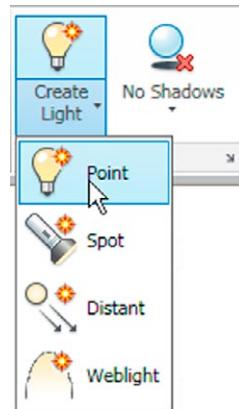
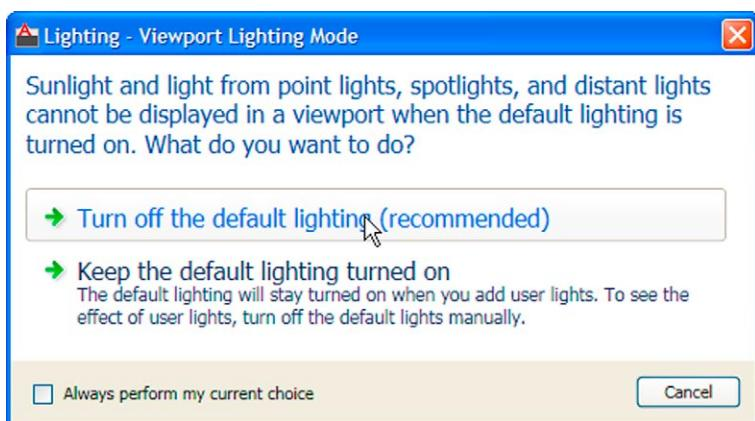
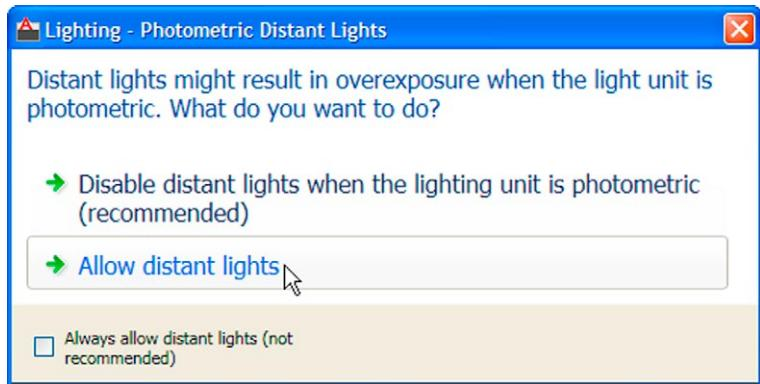

Fig. 15.21 The **Point Light** icon in the **Render/Lights** panel
Fig. 15.22 The **Lighting – Viewport Lighting Mode** warning window
Fig. 15.23 The **Photometric Distant Lights** dialog
3. *Click* the **Point Light** tool icon in the **Render/Lights** panel (Fig. 15.21). The warning window (Fig. 15.22) appears. *Click Turn off Default Lighting* in the window.
No matter which method is adopted the **Lighting – Viewport Lighting Mode** dialog (Fig. 15.22) appears. *Click Turn off default lighting (recommended)*. The **Lighting - Photometric Distant Lights** dialog then appears (Fig. 15.23). *Click Allow distant lights* in this dialog and the command line shows: